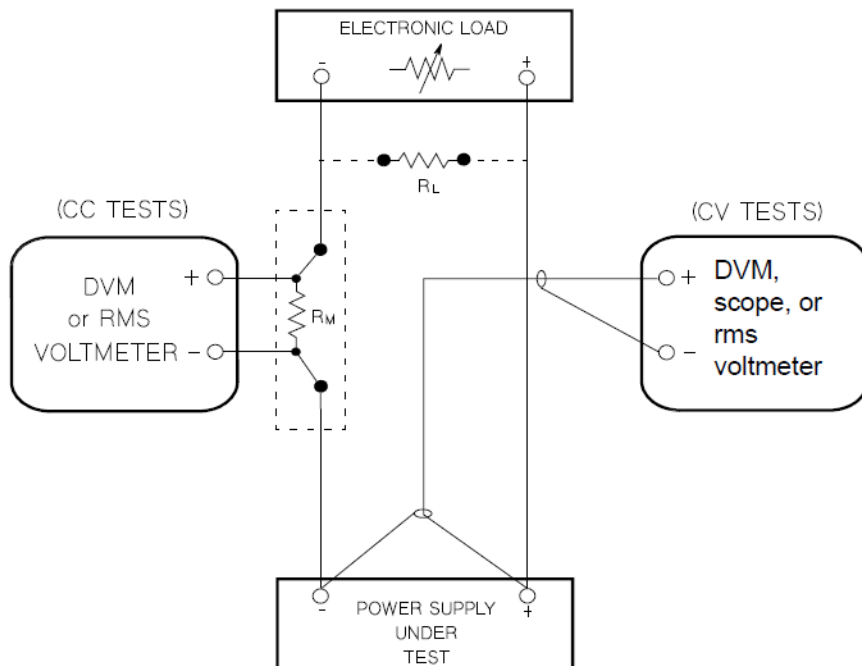
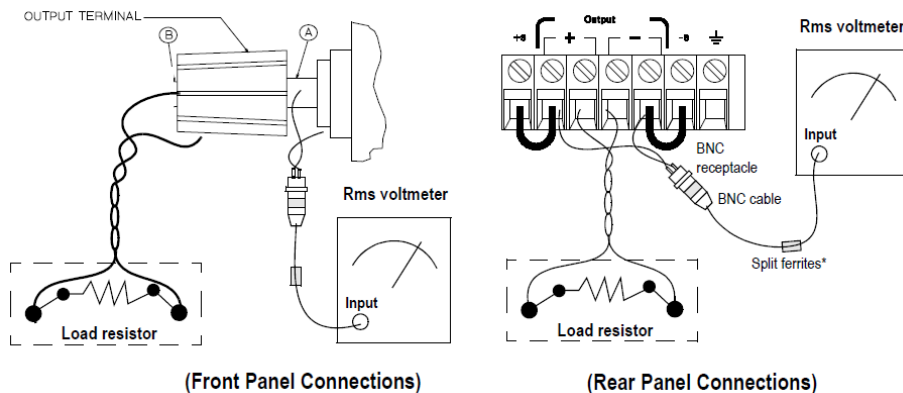

Figure 8-2 Performance verification test setup
Figure 8-4 Front/rear panel terminal connections for the Vrms measurement
Most tests are performed at the front terminals as shown in Figure 8-2. Measure the DC voltage directly at the (+) and (-) terminals on the front panel.
To eliminate the output current measurement error caused by the voltage drops in the leads and connections, connect the current-monitoring resistor between the (-) output terminal and the load as a four-terminal device. Connect the current-monitoring leads inside the load-lead connections directly at the monitoring points on the resistor element (refer to R_M in Figure 8-2).
- 1 Turn off the power supply and connect a digital voltmeter between the (+) and (–) terminals of the output to be tested as shown in Figure 8-2.
- 1** Turn off the power supply and connect a digital voltmeter between the (+) and (–) terminals of the output as shown in **Figure 8-2**.
For better measurement results, it is recommended to make the connection between the BNC receptacle and the output terminals as short as possible, and to use the recommended split ferrites with the BNC-to-BNC cable as shown in Figure 8-4.
- 1 Turn off the power supply and connect the output to be tested as shown in Figure 8-2 to an oscilloscope (AC coupled) between the (+) and (–) terminals. Set the oscilloscope to the AC mode and bandwidth limit of 20 MHz. Connect a resistive load ($13.5\ \Omega$)^[1] to the terminal at **B** as shown in Figure 8-4.
- 5 Disconnect the oscilloscope and connect the AC rms voltmeter in its place according to the “Vrms measurement techniques” on page 218 and as shown in Figure 8-4. The rms voltage reading must not exceed the rms limit of 0.5 mV^[4] or 1 mV^[5].
- 1** Turn off the power supply and connect the output to be tested as shown in Figure 8-2 with an oscilloscope. Operate the electronic load in the constant current mode.